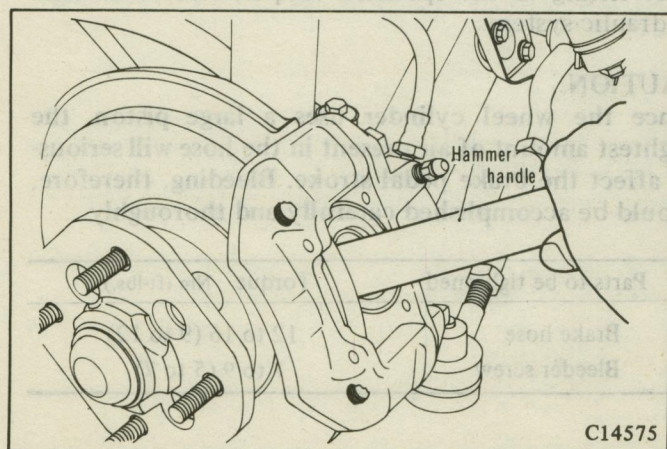

Fig. 23 Forcing the Piston
(1) When the pad has been replaced, clean the exposed part of the piston. Then, gently push the piston into the original position, taking care not to push the piston diagonally. (Fig. 23)